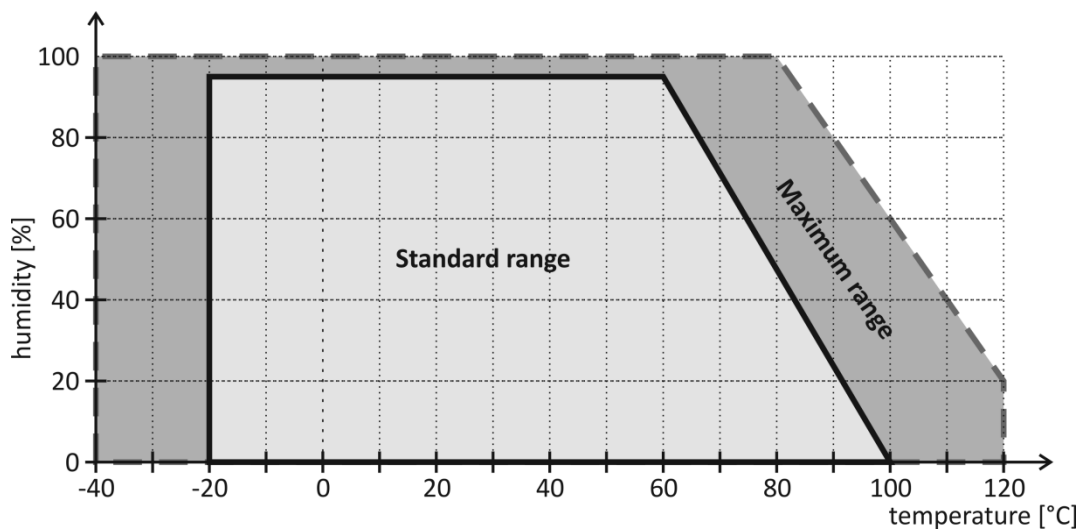

Fig. 28 – working and maximum temperature range
- Sensor is stable in standard range of values (see Fig. 28). Long-term exposure to conditions outside these values (humidity above 80% in particular) can temporarily shift the measured-out values (by +3% for 60 hours). When the sensor is back to standard ranges, it returns to its pre-calibrated state slowly.²³